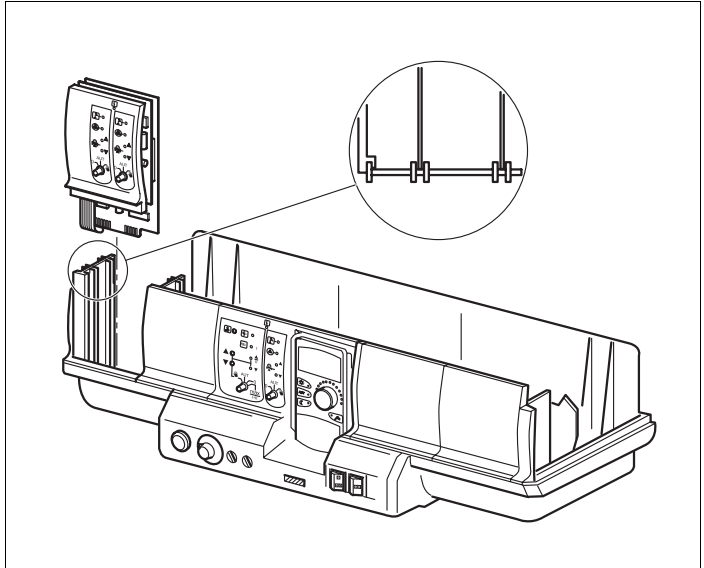

Fig. 4 Module installation and removal
- Remove blank plate from slot 1 (Fig. 4).
- Push new module into the free slot by pressing on the sensor bar from above (Fig. 4) until you hear it click into place.